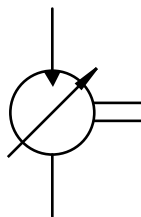

FIG 8.
G. The symbol for a hydraulic motor (variable capacity) with one direction of flow is shown in Fig 8.